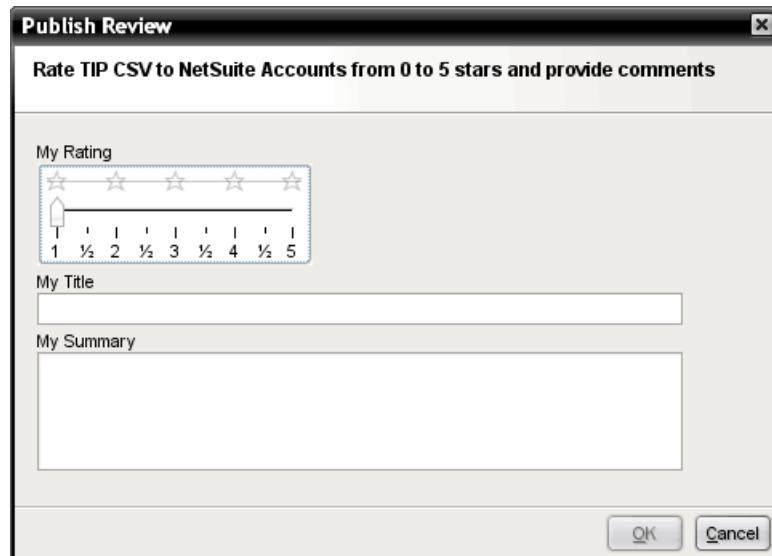

Figure 7-35 Rate and review in Publish Review window
2. Select **Solutions** → **Create Review** in the Studio menu to launch the Publish Review window shown in Figure 7-35 on page 320: